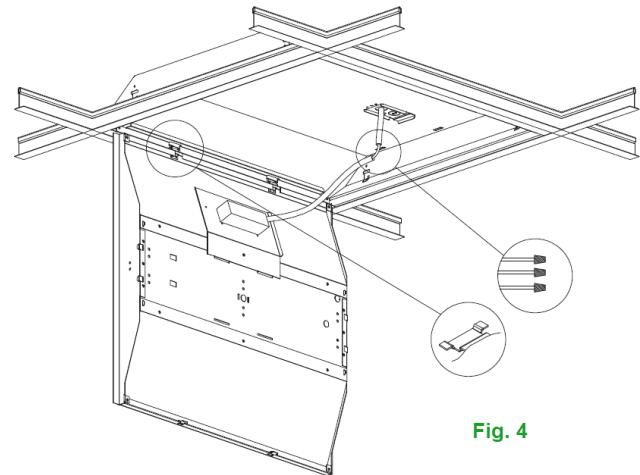

Fig. 4
- Install the flat bottom side to one of the brackets. Fix the safety rope and connect the circuit. (Fig. 4)